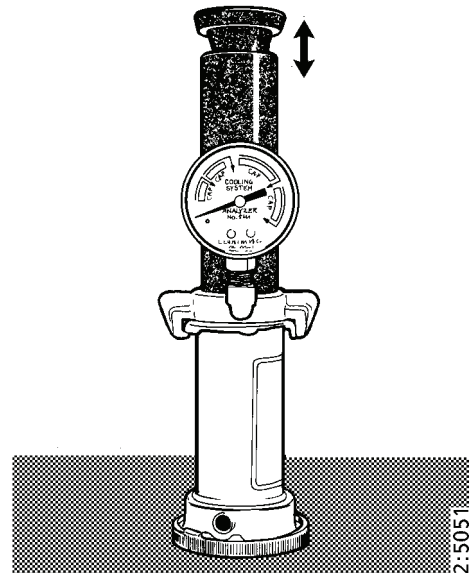

Figure 7-2
2. Pump up the pressure until the cap opens (Figure 7-2).